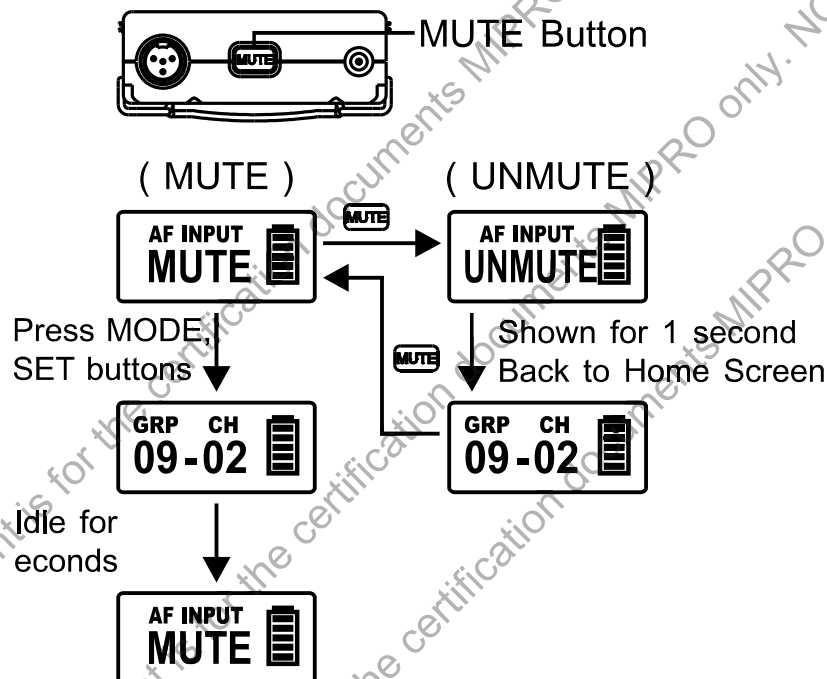

Fig. 33
- (1) ERR no01 → EEPROM Channel wasn't programmed or internal data error.
- (2) ERR no02 → for testing only.
- (3) ERR no03 → the set frequency exceeds the upper band. The transmitter frequency will not be changed but it can be operated as long as the power switch is turned on again.
- (4) ERR no04 → the set frequency exceeds the lower band. The transmitter frequency will not be changed but it can be operated as long as the power switch is turned on again.
(H) MUTE Button. Fig. 33:
- (1) Press MUTE button to enter mute status.
- (2) Press MODE, SET buttons to select parameters. Idle for 5 seconds and return to MUTE mode.
- (3) Press MUTE button again to unmute.
- (4) Unmute Mode: The screen shows UNMUTE for 1 second and returns to Home Screen.
- (5) MUTE button is only workable under MANUAL mode.